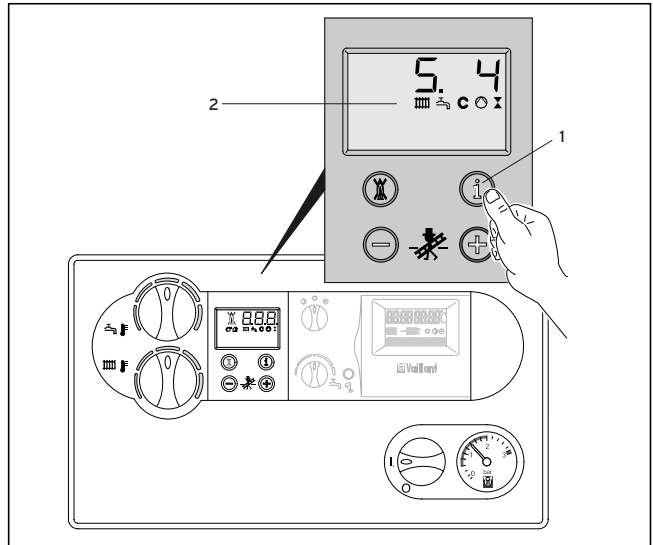

Fig. B.10 Status displays
4.5 Status displays (Fig. B.10) (for maintenance and servicing work carried out by a qualified service engineer)